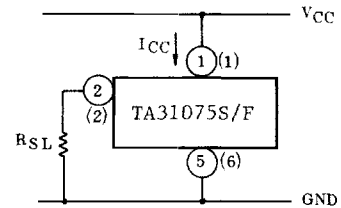

Fig. 2
The resistor R_{SL} is connected to GND terminal [⑤ (6) PIN] from I_{cont} terminal as shown in Fig.2.